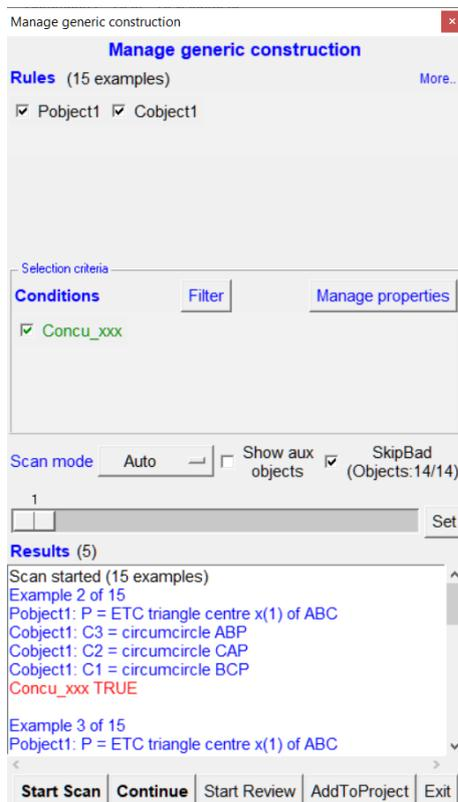

Figure 50
1. In the Examples-form checkmark the rules you want to consider (Figure 50, see previous section).